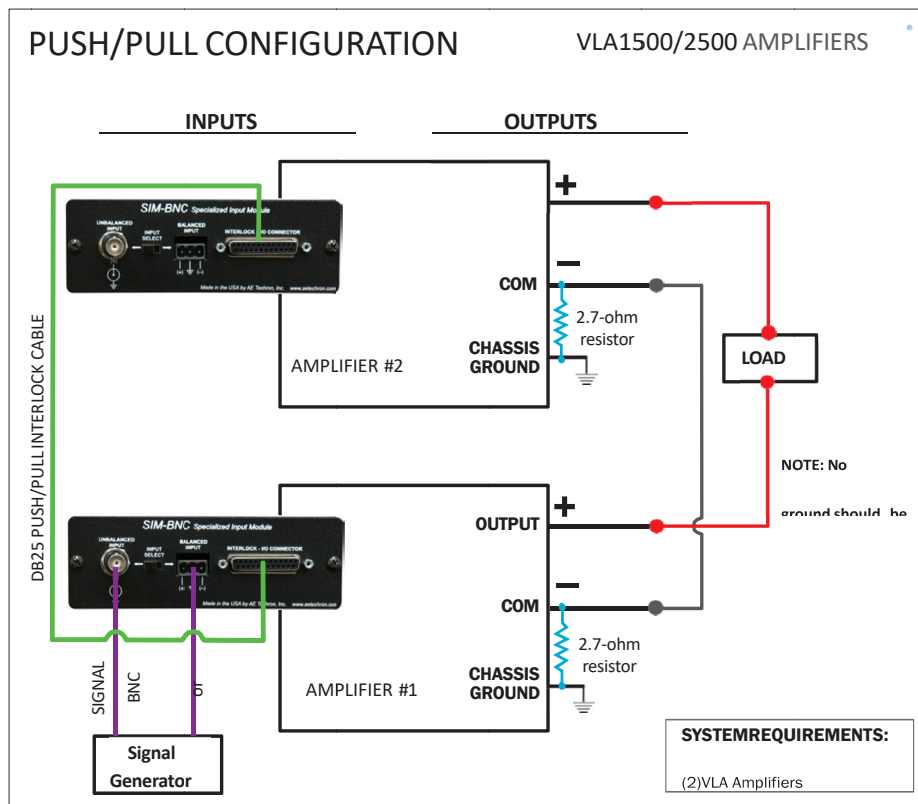

Figure B.2.15 – VLA1500/2500 Push/Pull Configuration
5. Check the completed system diagram in **Figure B.2.15** to verify proper system setup.